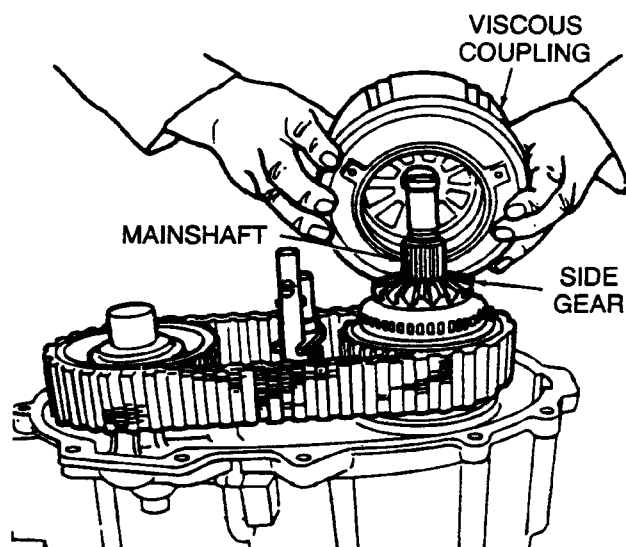

Fig. 4-11 Remove Viscous Coupling
14. Remove viscous coupling (Fig. 4-11).